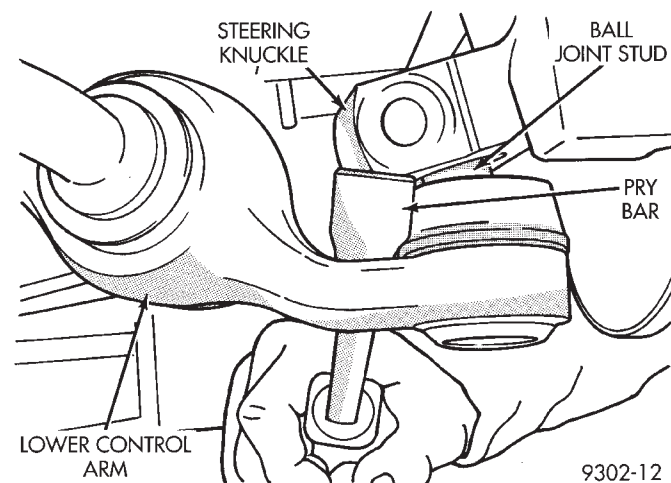

Fig. 11 Separating Ball Joint From Steering Knuckle
(4) Carefully insert a pry bar between lower control arm and steering knuckle (Fig. 11), to separate ball joint stud from steering knuckle (Fig. 11). **Note: Use caution when separating ball joint stud from steering knuckle so ball joint seal does not get cut.**